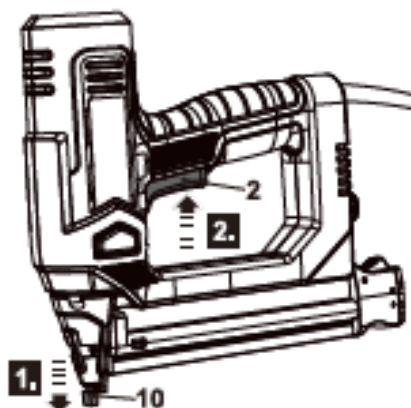

Fig. 8
1. Press the safety yoke (10) onto the material/workpiece that you want to nail (Fig. 8, step 1).
2. Maintain the contact pressure and briefly press the trigger (2) (Fig. 8, step 2). The firing will be performed.